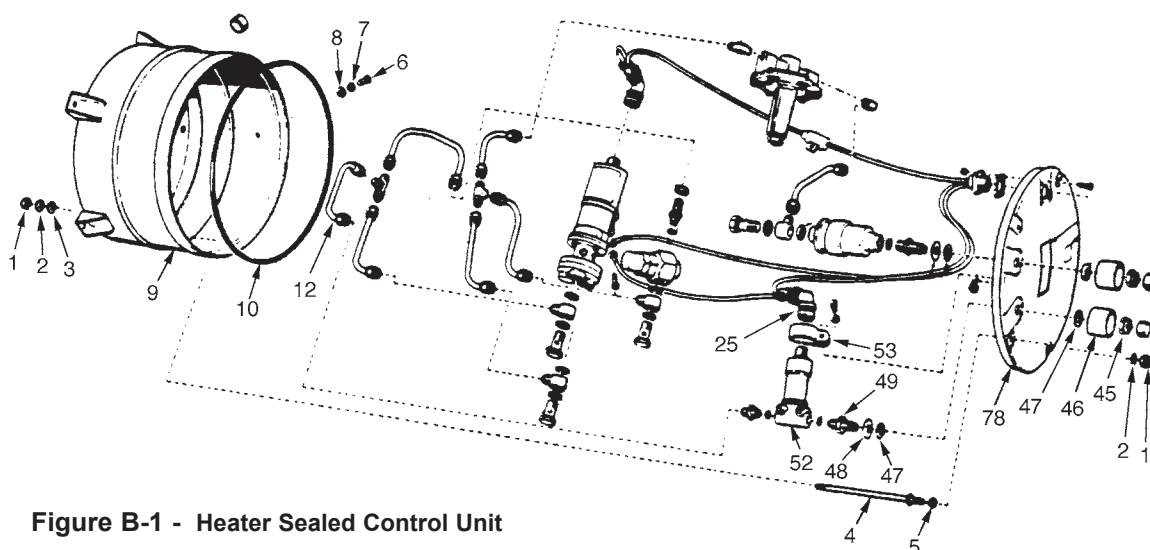

Figure B-1 - Heater Sealed Control Unit
- (1) To repair or overhaul Sealed Control Unit, it is necessary to remove the base assembly (78) from the jacket and cover assembly (9). Refer to Figure B-1.
- (10) Using the position noted in step 3.B (8), install the flat washer (48) and new gasket P/N AN900-7 (47) on the union. Insert the union, with the arrow pointing towards the base, in the fuel outlet port. Install the new gasket AN900-7 (47), shroud (46), and nut (45) snug but do not tighten. (Refer to Figures B-1, B-3, B-4, & B-5.)
- (12) Position the solenoid valve so that the fuel tube removed in step 3.B(5) will fit without difficulty. Refer to Figure B-1 as needed.
- (13) Reconnect the fuel tube (12) but do not force. If the B nuts will not finger tighten, then reposition the solenoid valve assembly for proper alignment and tighten. (It is permissible to bend the tube slightly to eliminate stress.) Use standard torque for B nut fittings.
- (14) Tighten the nut against the shroud and gasket from step 3.B(10) making sure to hold the union in place using an open end wrench. Use standard torque.
- (15) Tighten the nut(s) securing the clamp from steps 3.B(11)a & 3.B(11)b as applicable. Use standard torque.